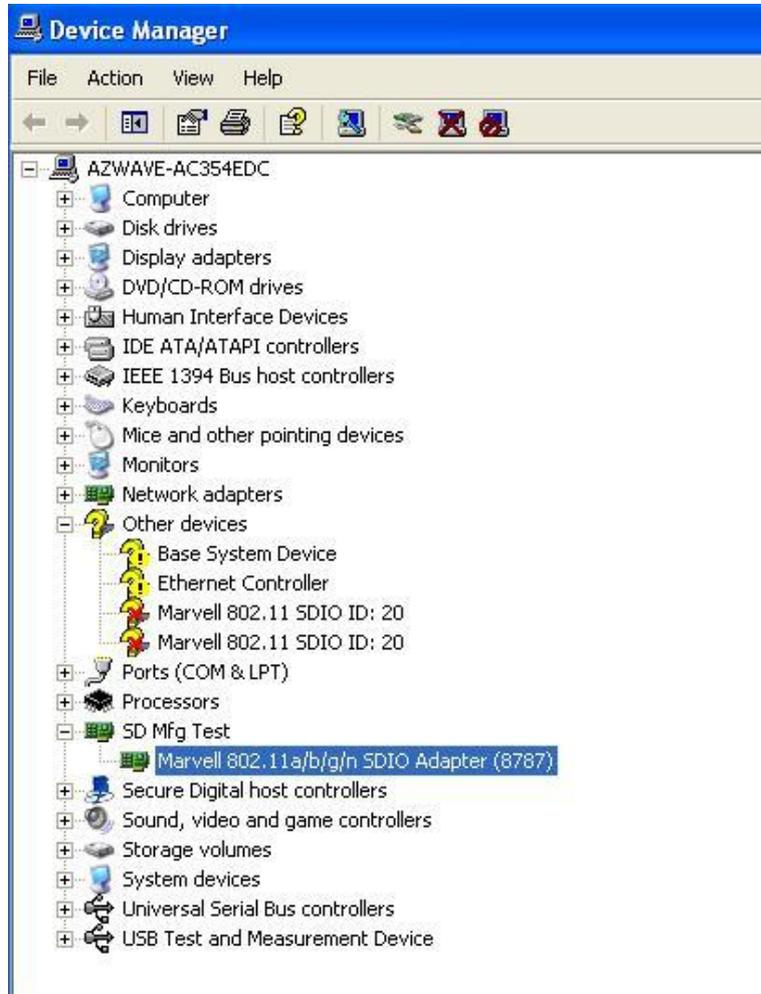

Figure 7
6. Installation will be successful as Figure 7 showed. WiFi is done.